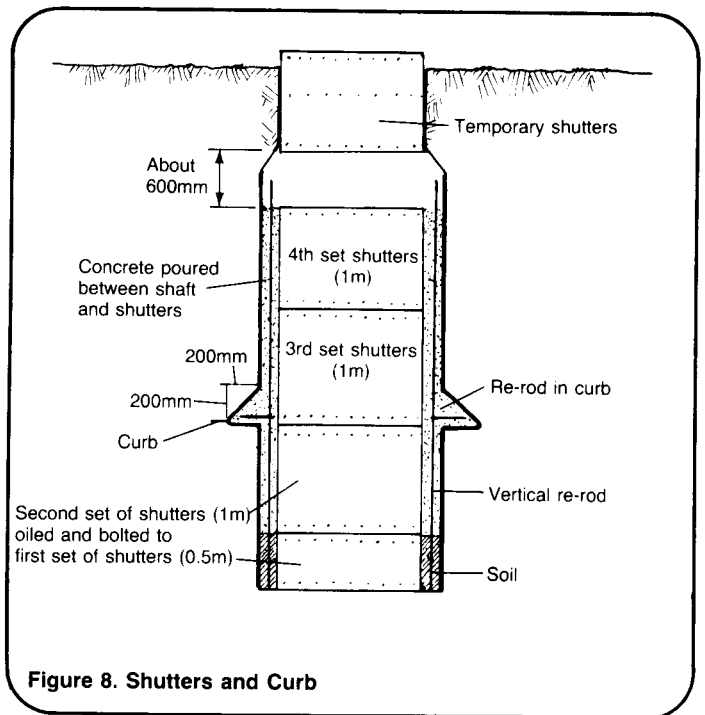

Figure 8. Shutters and Curb
11. Oil a set of shutters, 1.3m in diameter and 1.0m high, lower it into the shaft, and position it on top of the first set. Center the shutters with the short trimming rods, 1.3m long, check them with a spirit level, and bolt them in place, as shown in Figure 8.
Pour the concrete behind the shutters as shown in Figure 8. Pour it evenly and in shallow layers to prevent overloading one side. Tamp with a length of re-rod. Fill the space between the shutters and the shaft walls until the concrete is 10-20mm from the top of the shutters, and leave the top of the concrete rough. This will ensure a good bond with the next pour.
and fasten to the vertical re-rods. Remove the temporary cover. Fill in the groove with concrete as shown in Figure 8. This forms a curb which will help hold the lining in place and prevent it from slipping.
15. Oil a fourth set of shutters and repeat the process of lowering and positioning them and pouring concrete as shown in Figure 8.